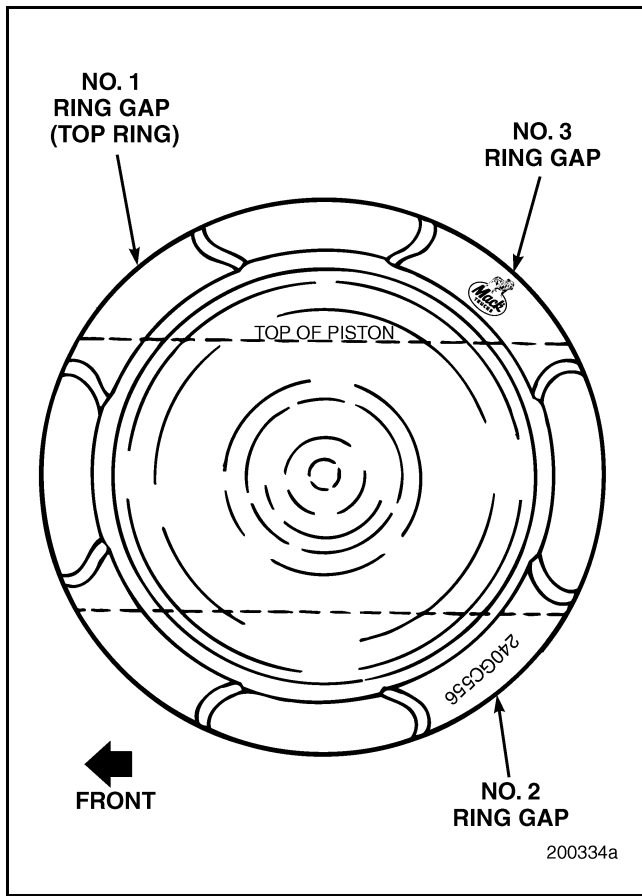

Figure 239 — Ring Gap Locations
2. Stagger the piston rings so that no ring gap is directly over the wrist pin bore, and no ring end gaps are aligned over each other (Figure 239).